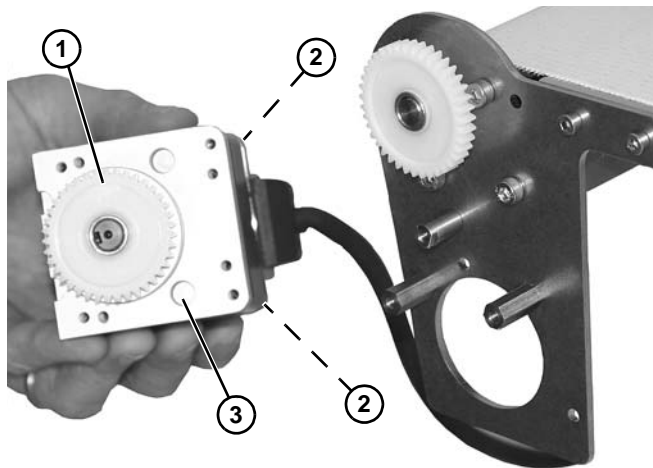

Figure 17
12. Loosen set screw and remove drive gear (**Figure 17, item 1**).
13. Remove (4) four screws (**Figure 17, item 2**) securing adapter plate (**Figure 17, item 3**) to gearmotor.